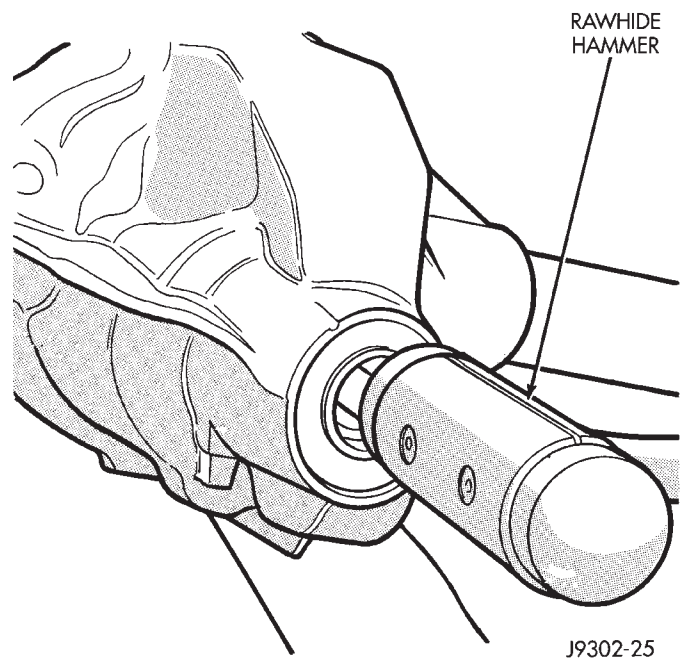

Fig. 29 Remove Pinion Gear
(6) Remove the pinion gear and preload shims from housing (Fig. 29). Catch the pinion with your hand to prevent it from falling and being damaged.